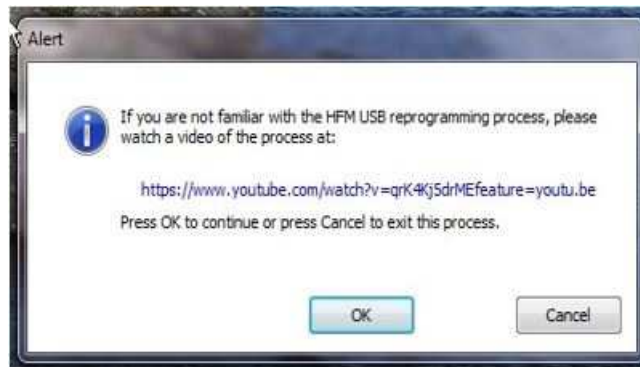

Fig. 5
6. If you are not familiar with this process, please watch a video at the following link (Fig. 5) . Click the "OK" button.